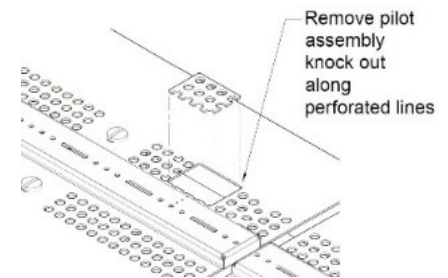

FIGURE 7
- 10) Before replacing the removed burner top from **step 4**, locate the perforated rectangular section in the pan. Gently remove this section along the perforations using a screwdriver or pliers. **(Figure 7)**